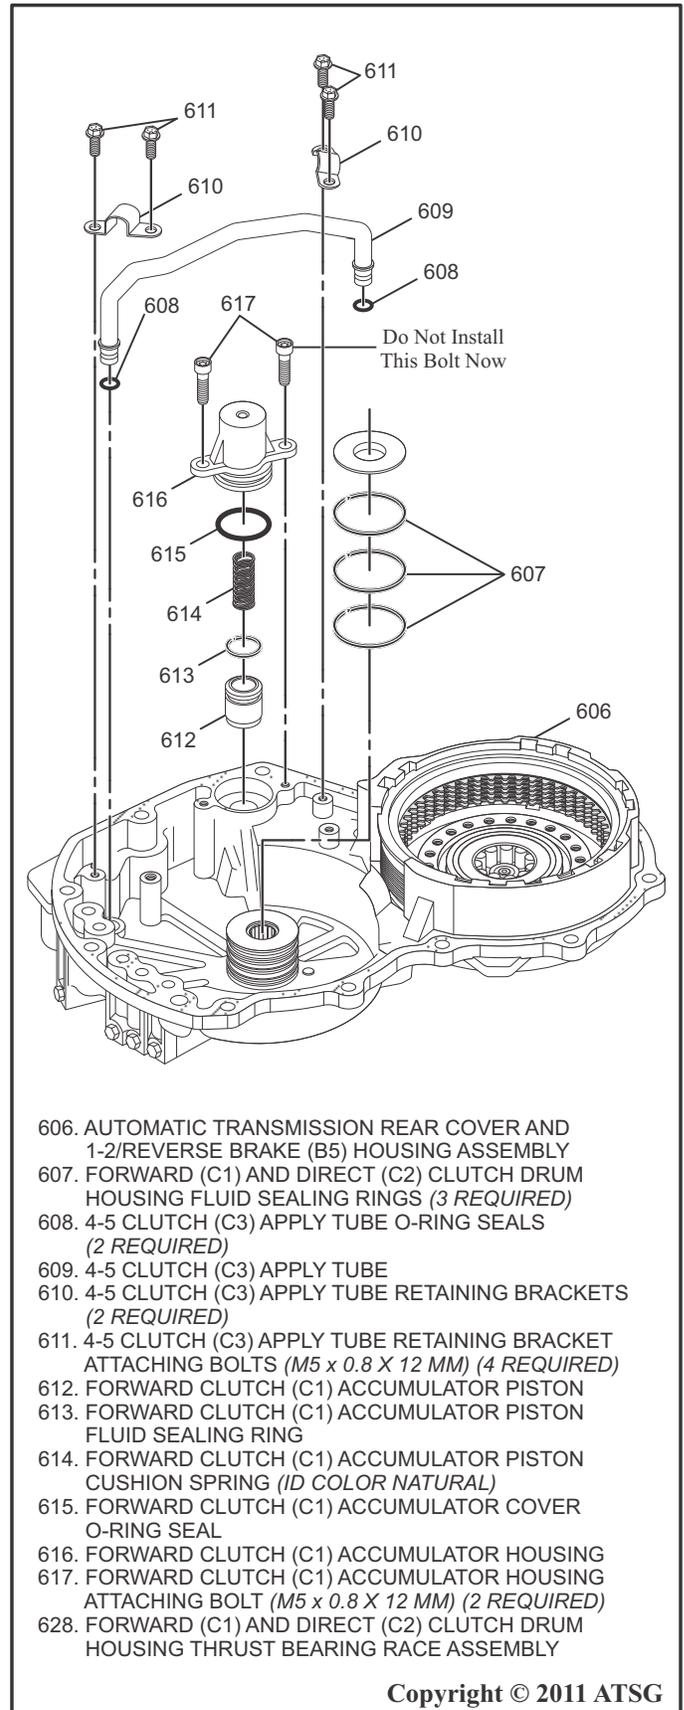

Figure 134
19. Install three new Forward (C1) and Direct (C2) Clutch Drum Fluid Sealing Rings as shown in Figure 134.
21. Coat the Forward (C1) and Direct (C2) Clutch Drum Housing Thrust Bearing Race with a small amount of Trans-Jel® then place the thrust bearing race onto the 1-2/Reverse Brake (B5) Housing as shown in Figure 134.
22. Install two new O-ring Seals onto the 4-5 Clutch (C3) Apply Tube and coat the rings with a small amount of Trans-Jel® then install the tube by pressing downward gently or use a small plastic hammer and lightly tap the tube downward as shown in Figure 134.
23. Install the 4-5 Clutch (C3) Apply Tube Retaining Brackets and the four Retaining Bracket Attaching Bolts and hand tighten the bolts as shown in Figure 134.
24. Install a new Sealing Ring onto the Forward Clutch (C1) Accumulator Piston and a new O-ring seal onto the Accumulator Housing as shown in Figure 134.
25. Coat the Accumulator Piston Seal with a small amount of Trans-Jel® then install the accumulator piston with a twisting motion into the 1-2/Reverse Brake (B5) housing as shown in Figure 134.
26. Install the Accumulator Cushion Spring as shown in Figure 134.
27. Coat the Accumulator Housing O-ring seal with a small amount of Trans-Jel® and install the accumulator housing by pushing downward with a slight twisting motion so it compresses the spring, then install one of the two attaching bolts and hand tighten the bolt as shown in Figure 134.